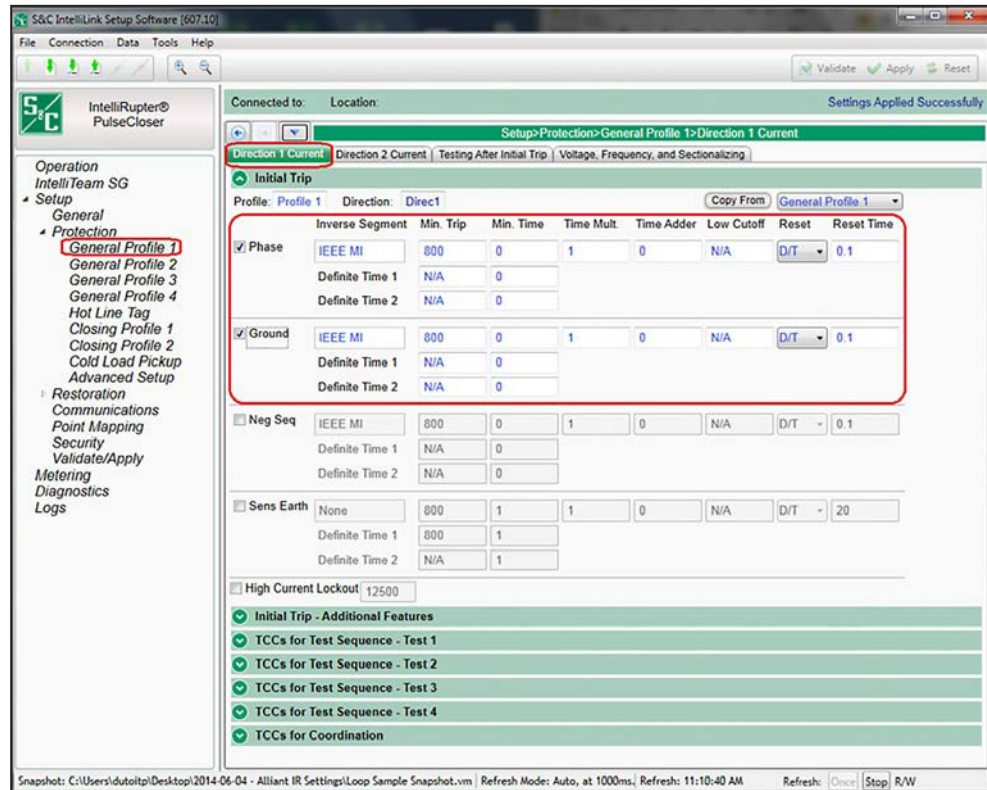

Figure 77. The Initial Trip curve configuration panel on the *Setup>Protection>General Profile 1>Direction 1>Current* screen.
STEP 5. Configure the Initial Trip TCC curves for each direction; each test sequence can have a unique curve. See Figure 77 on page 162. The S&C curve library is located in this folder on the computer: C:\Users\Public\Documents\S&C Electric\Curve Library 2.3\Base TCC Curve XDT Files\.